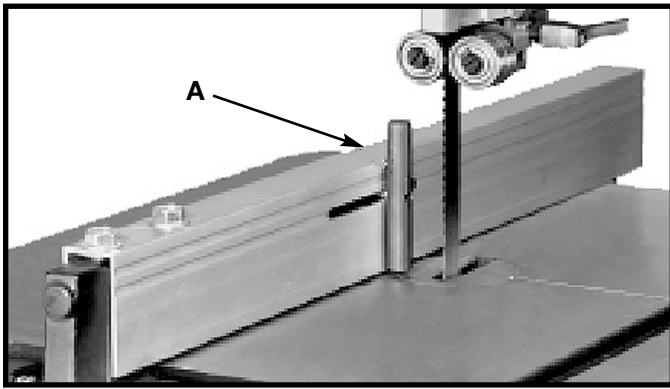

Fig. 28
The resaw gauge (A) attaches to the fence (Fig. 28). Slide it along the fence slot until the edge is slightly in front of the blade teeth. Use this gauge for resawing operations and for cutting warped workpieces.